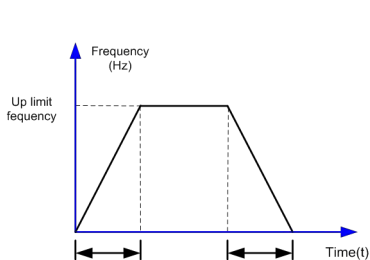

Figure 6-3
**0: Linear acceleration/deceleration.** The output frequency increases or decreases in linear mode, showing in figure 6-3.